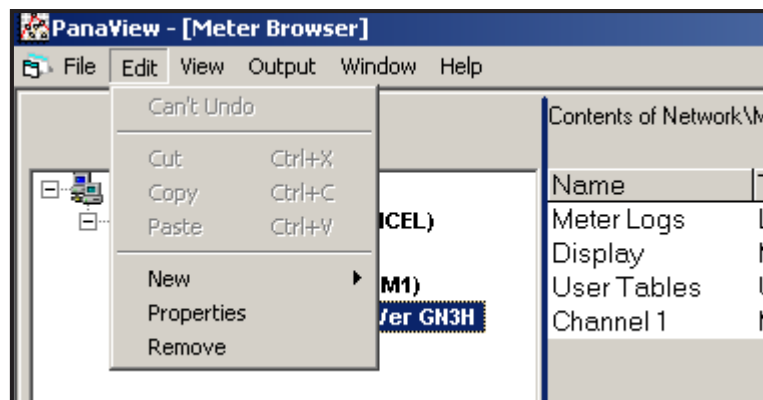

Figure 24: The *Properties* Option in the *Edit* Menu
2. Open the “*Edit*” menu and select the “*Properties*” option, as shown in Figure 24.